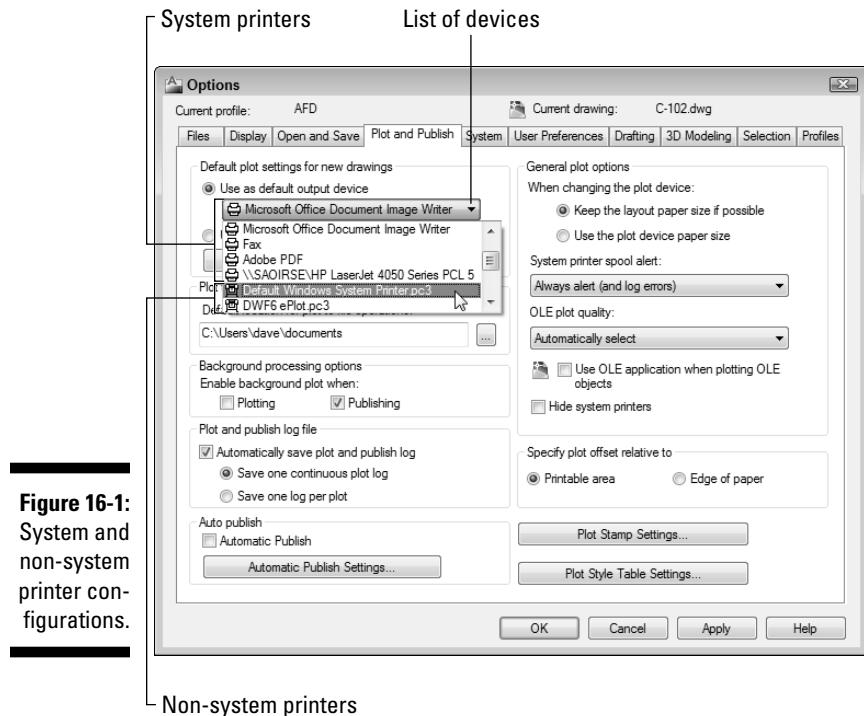

Figure 16-1:
- 3. Click the drop-down arrow to view the list just below the Use as Default Output Device option, as shown in Figure 16-1.**